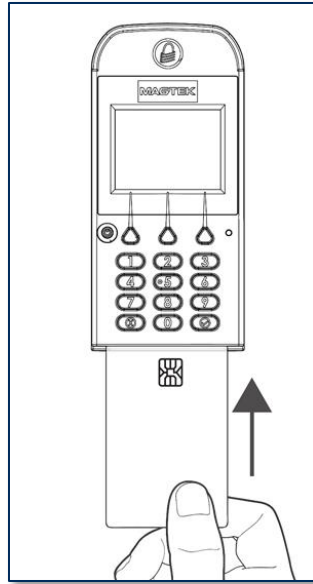

Figure 7-18 - Inserting a Chip Card
- 2) Locate the slot on the front of the device shown in **Figure 7-18**.